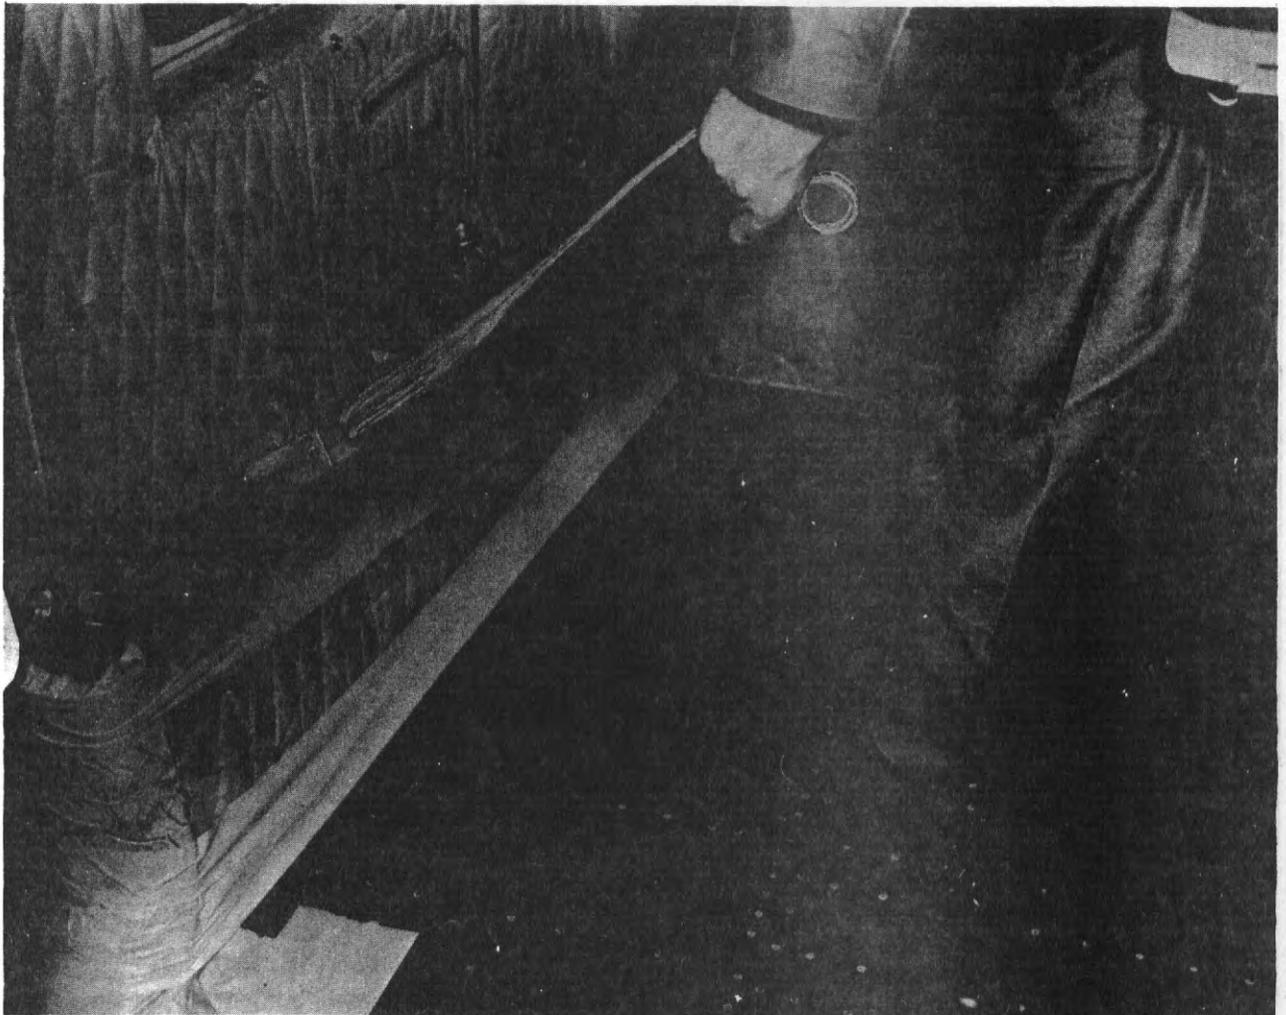

Figure 92. Hook up with reverse bight (UH-19).
(3) **HOOK UP.** Parachutists unfasten their static line snaphooks from the carrying handle of the reserve parachute, hook their static line snaphook to the forward section of the anchor line cable in numerical order, and take a reverse "bight" in their static lines (fig. 92).
- (4) **CHECK STATIC LINES.**
- (5) **CHECK EQUIPMENT.**